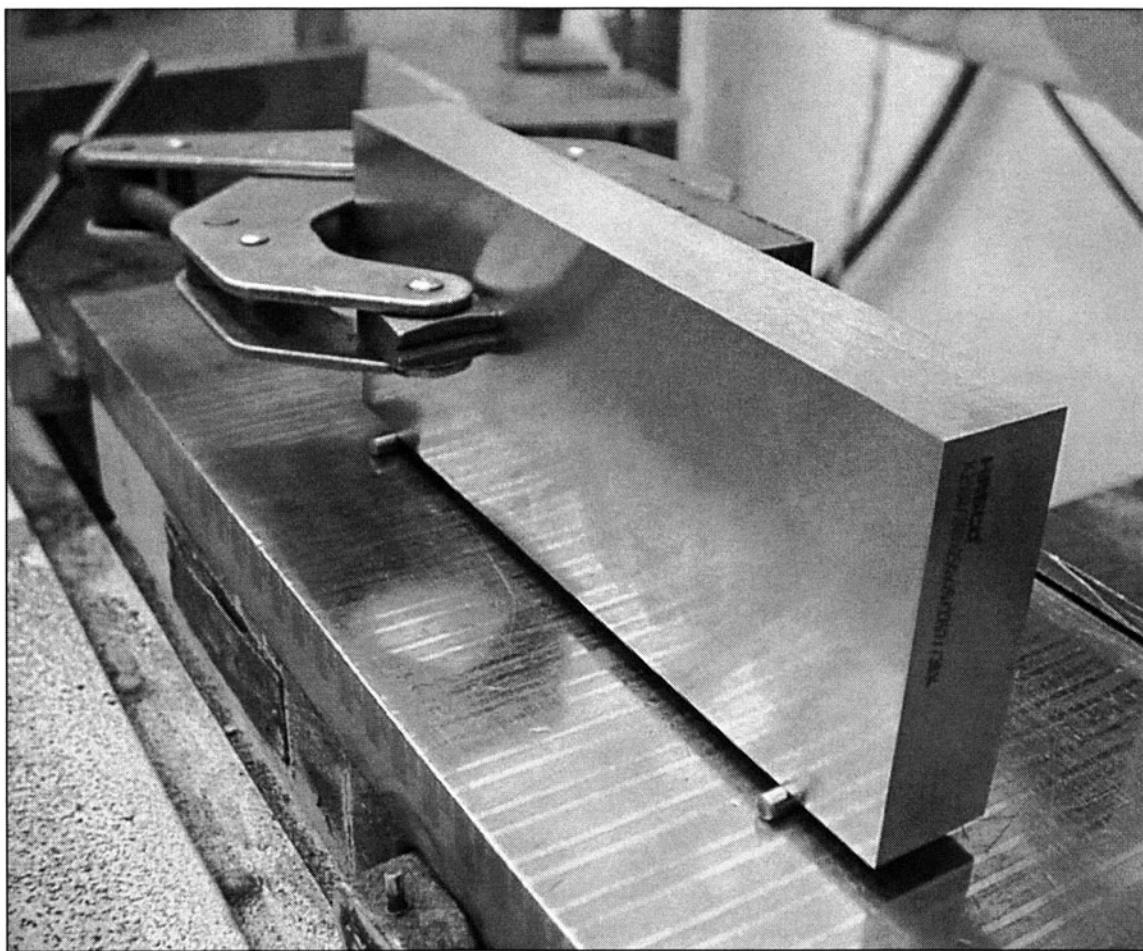

FIGURE 14-6 A block is supported on dowel pins to keep a non-square edge from sucking down on the magnet.
12. Set a block on dowel pins when using an angle plate to square an edge. (See Fig. 14-6)